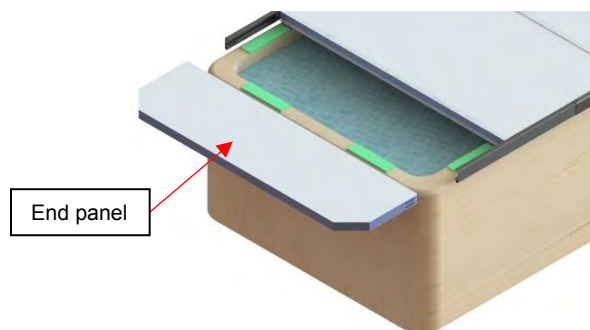

Figure 72
29) Insert one of the end panels with the tapered end toward the end of the cover. The end panels are tapered with a 45-degree cut. (Figure 72).